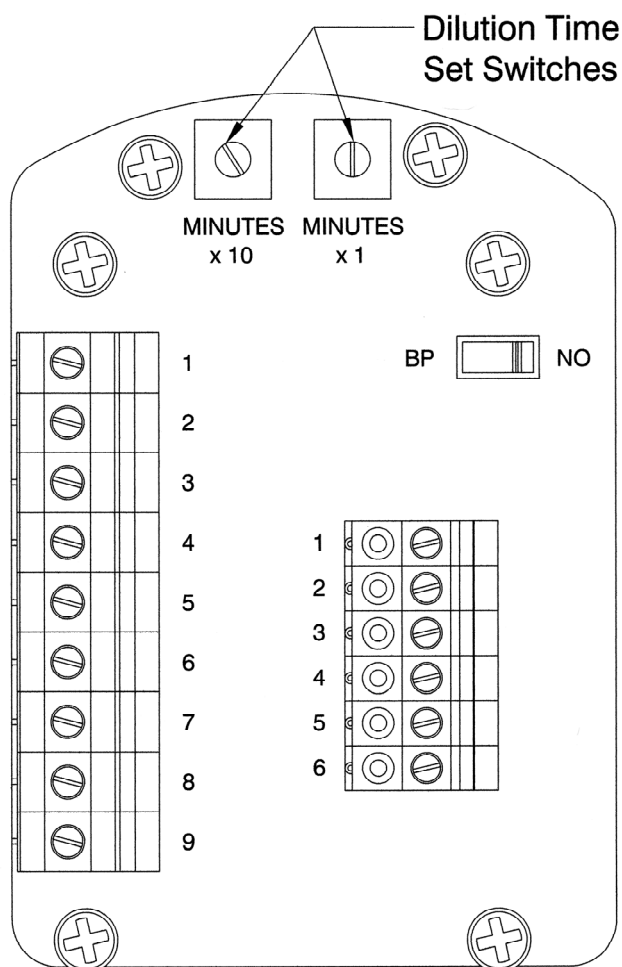

Figure 2
With Automatic Leakage Compensation Purge Gas Inlet Kit solenoid valve wires connected to terminal blocks in CYCLOPS X – Purge Controller, SM Version set automatic dilution time cycle to ensure that at least five (5) times the volume of free space in the electronics enclosure is exchanged before power is automatically applied to the electrical equipment. Refer to Figure 2 for location and details of dilution time switches.